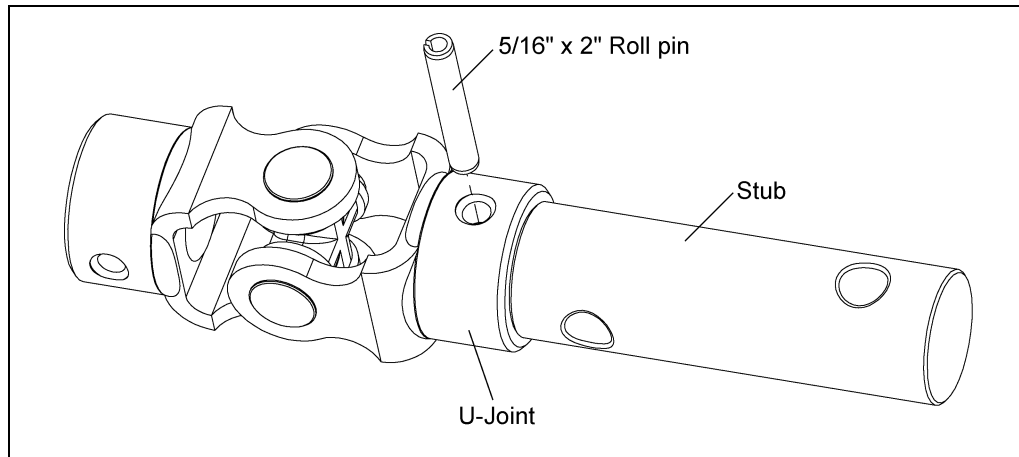

Figure 4Y
- b. Secure the U-joint using a 5/16" x 2" roll pin. (See Figure 4Y.)